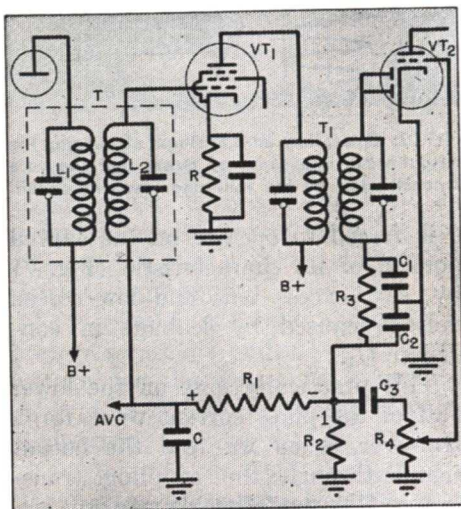

FIG. 8. An i.f. amplifier stage.
▶ However, an i.f. stage like that in Fig. 8 may cause distortion when overloaded. Suppose that a.v.c. filter con-
**Audio Stages.** Amplitude distortion is most commonly produced in the audio stages. Distortion caused by too much grid bias sometimes occurs in the first a.f. amplifier, which may be the triode section of  $VT_2$  in Fig. 8. During rectification, a d.c. voltage is built up across diode load resistor  $R_2$ , with point 1 negative with respect to ground. If coupling condenser  $C_3$  becomes leaky, the d.c. voltage across  $R_2$  will also appear across the volume control  $R_4$ . Then, as the slider arm on the volume control is moved towards